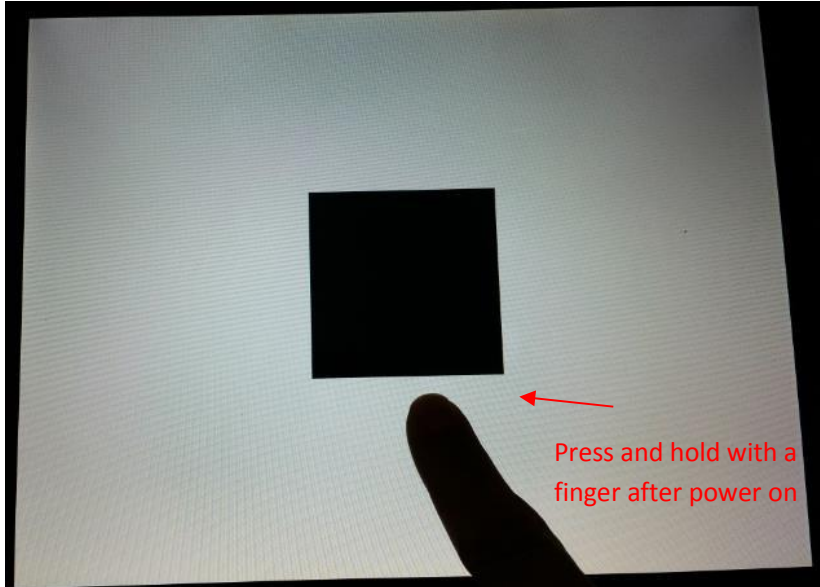

Fig. 29
② Insert the USB disk into the touch screen. When the touch screen is activated, press and hold at any point on the screen with a finger, as shown in Fig. 29.